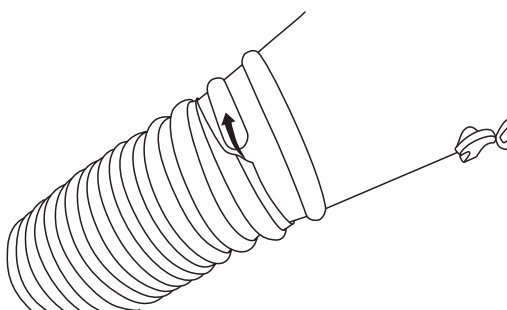

Fig. 23b
- d. To reattach the welding helmet airduct tube, thread it onto the welding helmet air distribution flange by turning **counterclockwise**. Thread the airduct tube onto the welding helmet using two (2) full rotations or until it is snug (Fig. 23b).